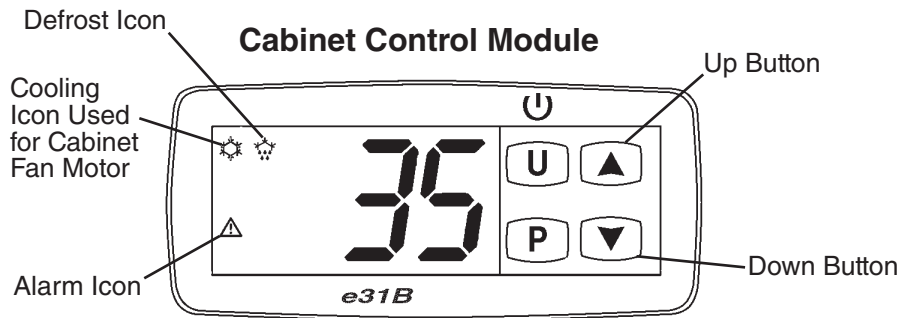

Fig. 29
- a) **Cabinet Temperature Setpoint Adjustment:** The cabinet temperature is displayed on the control module. To change the cabinet temperature setpoint, press the up arrow and release. See Fig. 29. SP1 and the cabinet setting flashes. Press the up or down arrow button to the desired temperature setpoint. 5-sec. later, the temperature setpoint is saved and the display returns to normal display. **NOTICE! Do not adjust the temperature setpoint more than 2°F (1.1°C) at a time. Allow the temperature to stabilize for a minimum of 8 hours before making further temperature setpoint adjustments.**